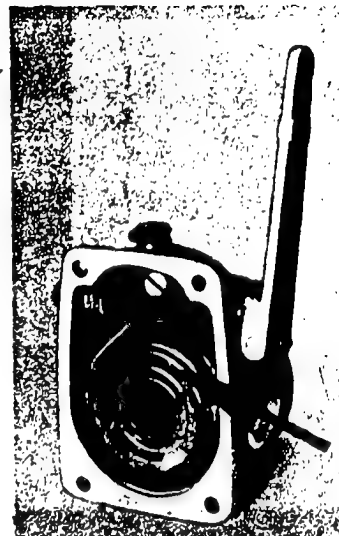

Fig. 65 Position of zero marking on manual injection timer
- b) When mounting a manual injection timer, insert key in camshaft. Zero marks in coarse-thread sleeve, coarse-thread nut, and carrier must coincide (Fig. 65). When in this position, slide timer on camshaft cone and tighten coarse-thread sleeve, then screw on housing of the injection-timing device.